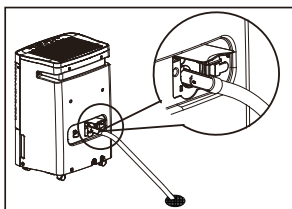

fig. 5
- e. Direct the hose toward the drain, making sure that there are no kinks that will stop the water flowing. (fig.5)